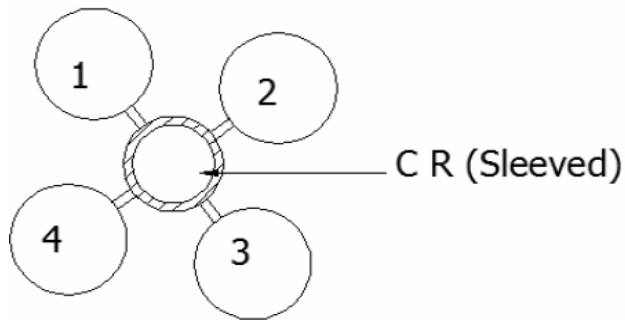

Fig. 5
- Common riser principles (Fig.5)